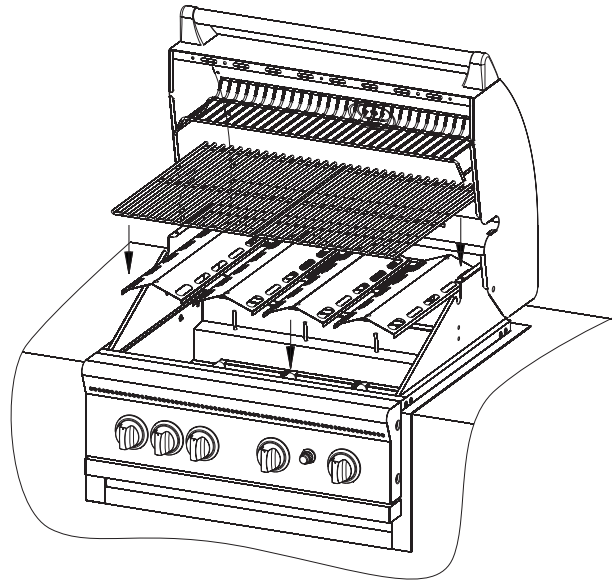

Figure 7
- Place flame tamers over burners. Pins on burner box fit through holes on flame tamer. See Figure 7.
- Place cooking grids into grill. See Figure 7.
- Place warming rack on top of grill body side walls. See Figure 7.